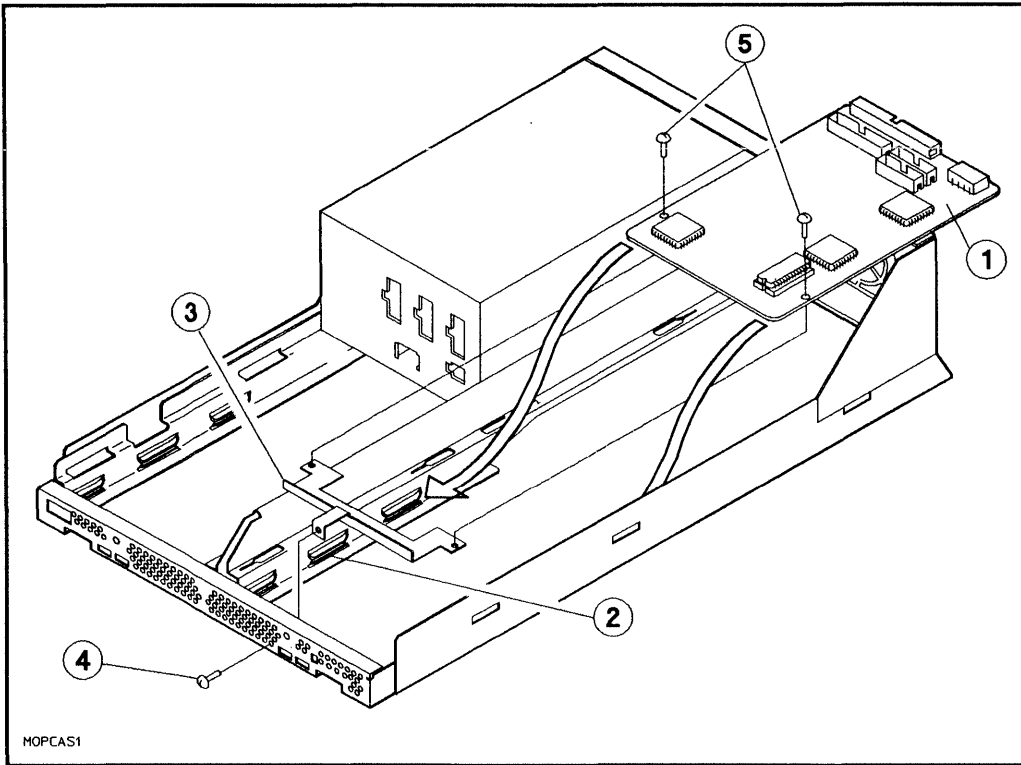
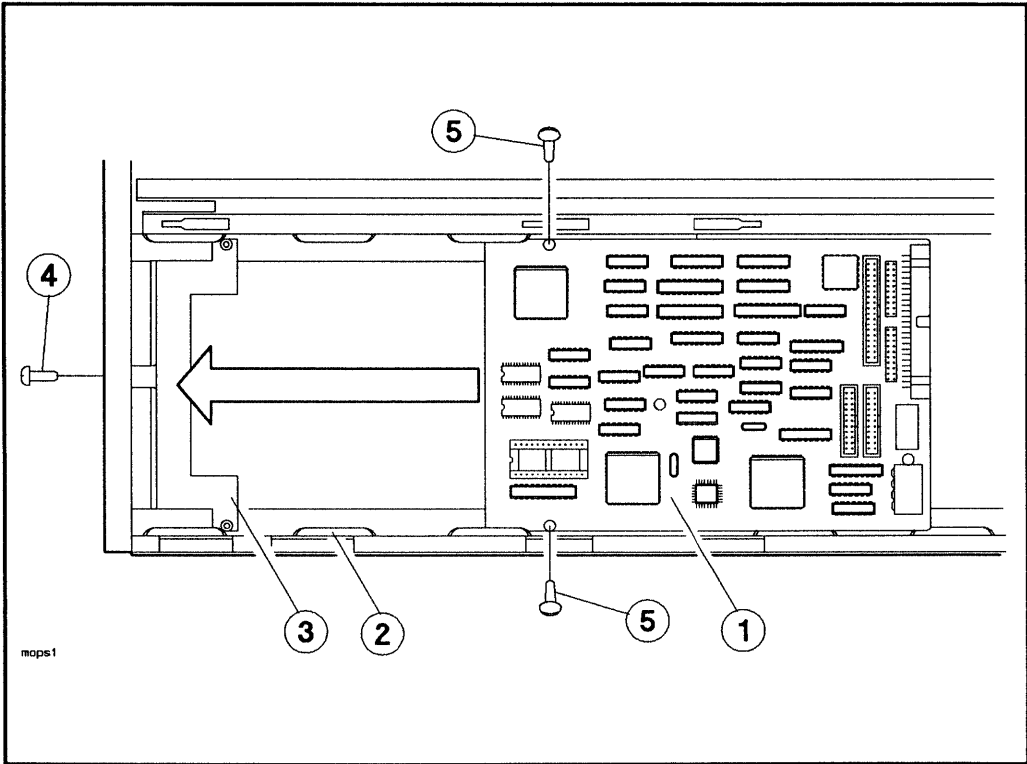

Figure 5-3. Installing the Rewritable Optical Controller PCA
Figure 5-4. Sliding the Controller PCA into the PCA Guides (top view)
1. Install the PCA mounting bracket into the chassis with the bracket-to-chassis screw as shown in Figure 5-3.
2. Slide the controller PCA into the PCA guides in slot 1 (see Figure 5-3 and Figure 5-4). Ensure that the two holes in the controller PCA near the front of the mass storage system align with the holes in the mounting bracket beneath the controller PCA.
3. Install the two bracket-to-PCA screws (see Figure 5-4) through the controller PCA into the mounting bracket. Do not over-tighten these screws.